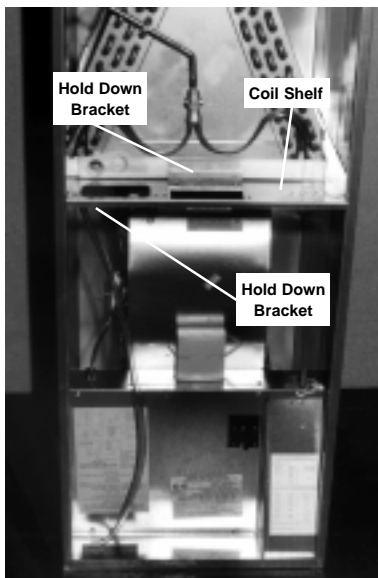

Figure 1: Coil Shelf
2. Install coil shelf (see Figure 1):
3. Install the A-Coil in the cabinet on top of the coil shelf. Secure with the hold down bracket and two screws. (see Figure 1)